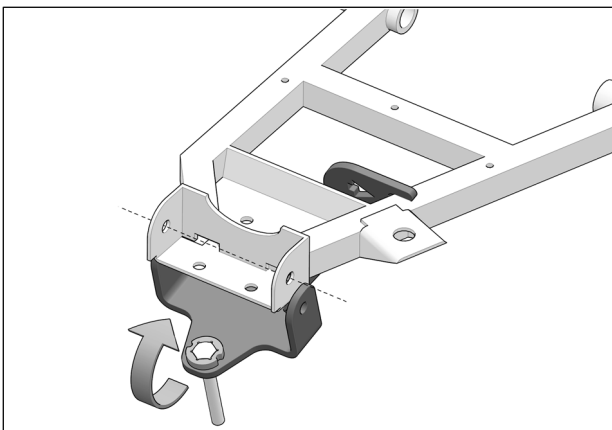

Fig. 7
- Pivot front of bracket upward and align anchor bracket bolt holes with suspension arm bolt holes. See Fig. 7